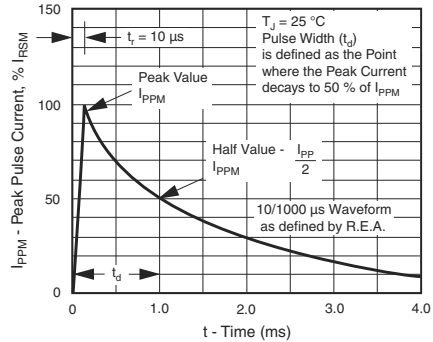
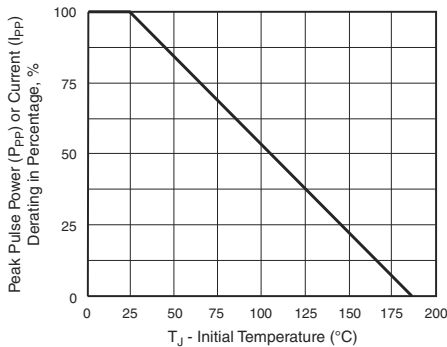

Figure 3. Pulse Waveform
Figure 2. Pulse Power or Current vs. Initial Junction Temperature
- (1) Pulse test: tp ≤ 50 ms
- (2) Surge current waveform per fig. 3 and derate per fig. 2
- (3) All terms and symbols are consistent with ANSI/IEEE C62.35